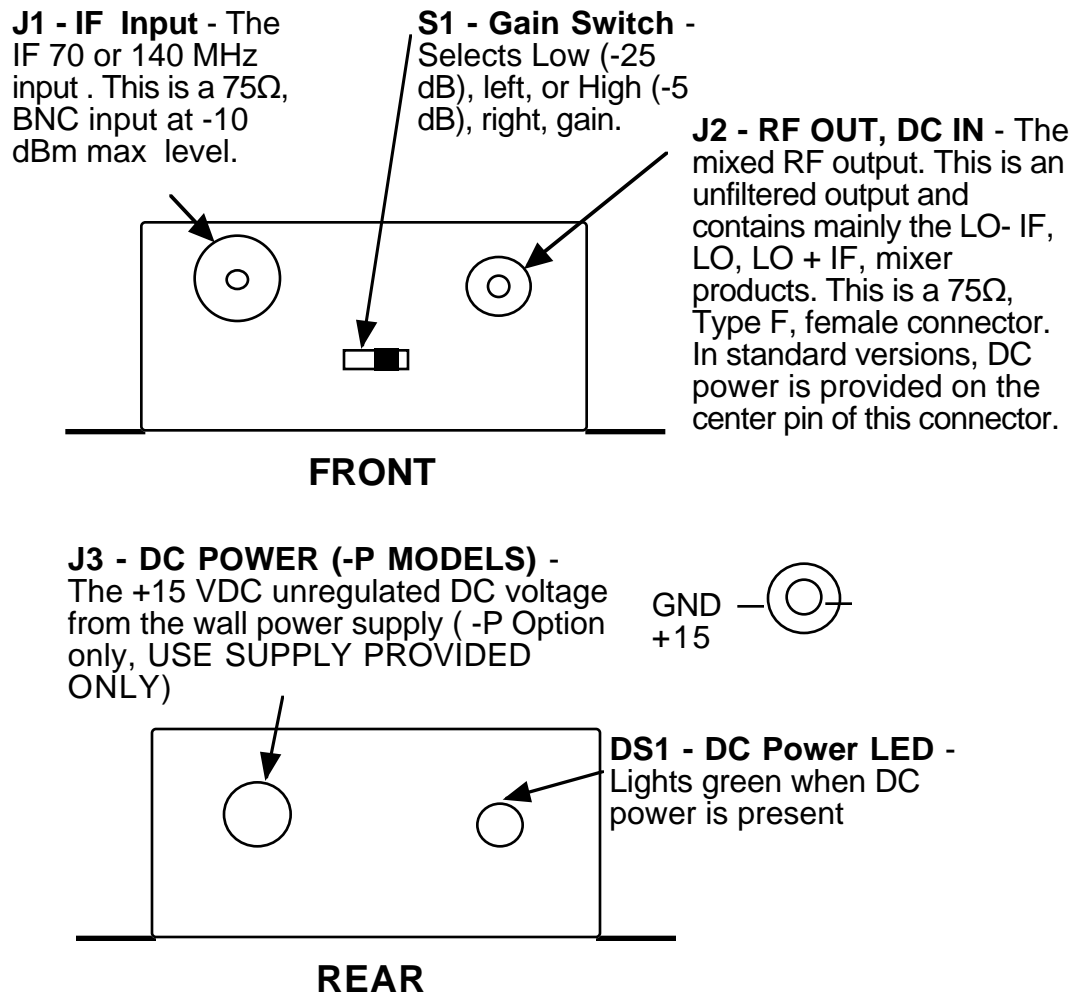

Figure 2.3 2006-11, -12 Input, Output, Power LED, External DC In (-P Option)
A green LED indicates presence of DC power (Figure 2.3).
2.3 Input / Output Signals - Figure 2.3 shows the input and output signals to the 2006-11, -12.
- 5.) Connect -10 dBm (max., Low Gain) or -30 dBm (max., High Gain) signal to IF In, J1 (Figure 2.3)